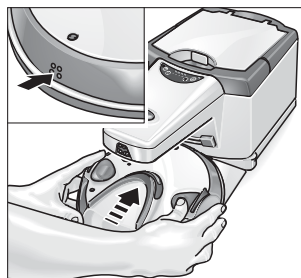

Figure 7: Operation after a long rest period
- Place the robot near the station, and press the battery contacts of the robot against the battery contacts of the station for approximately 60 seconds (Figure 7).